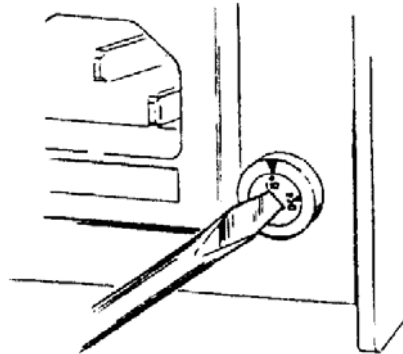

Figure 1-5. Voltage selector switch.
(17) Voltage selector switch (34). Refer to figure 1-5 for a more detailed view. Use the voltage selector switch to select proper voltage for 110v or 220v line power.
(18) Fuse holder (35). The fuse holder holds the appropriate fuse for the line voltage selected.